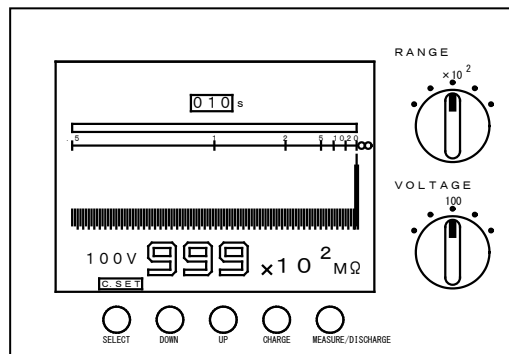

Fig. 6.6.4
- 4) Using the **UP** or **DOWN** switch, set the charging time to **010** seconds. (Fig. 6.6.4)